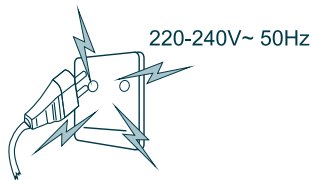

Fig.4
1. Please use the normal power supply voltage 220-240V~ 50Hz and the independent 2.5A standard socket complied with national standard to guarantee the safety(See Fig.4).